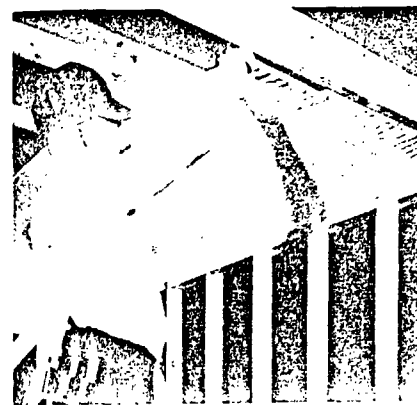

FIG. 4
11. Side Wall Blocks — The side wall back blocking is cut slightly less than the width of the stud space and approximately 4" longer than the space to be blocked, allowing the block to extend behind the upper course of board as shown. Note the high ridges of PIRF-A-TAPE Cement or All Purpose Ready-Mixed PIRF-A-TAPE Cement applied so as to be at right angles to the vertical end joint. (Ceiling end joints are blocked in a slightly different manner as shown in Fig. 4.)